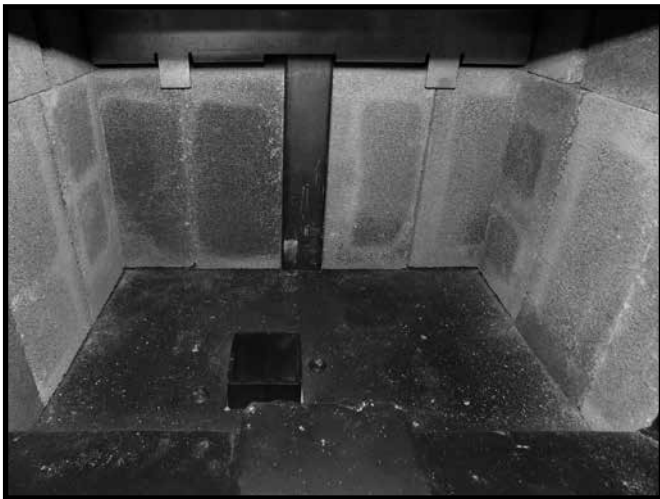

Figure 12. Firebox floor with ash dump.
7. Repeat steps 4-6 on the other side Figure 12.